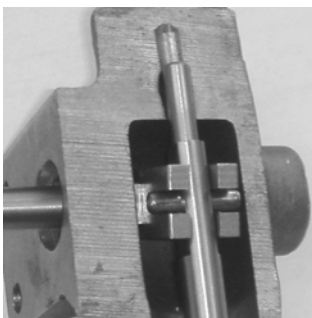

Figure 1 – Clevis engaged with the piston stem pin.
5. Rotate the lever to dis-engage the piston assembly pin from the clevis inside the bonnet. Ref. Figure 1 on next page.